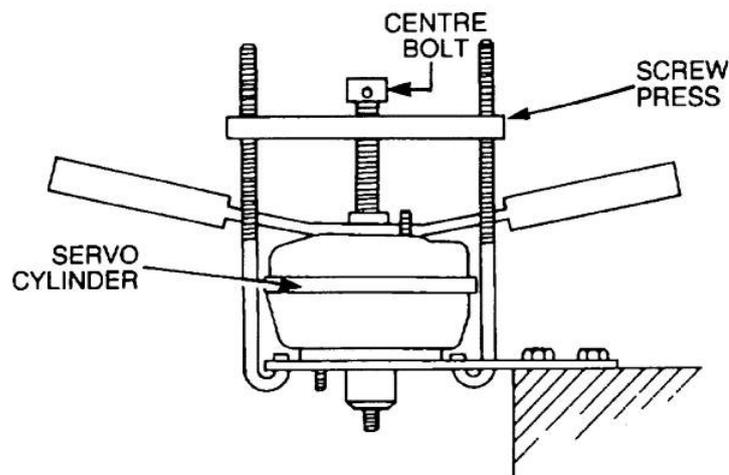

Figure 285 Disassembly of the Servo Vacuum Chamber
- b.** Match mark the front and rear covers (items 8 and 25) to ensure correct orientation on reassembly.
- c.** Remove the vacuum check valve (item 5) and grommet (item 7) from the front cover. Discard both components.
- d.** Remove the nut (item 23) and clevis (item 22) from the input rod and plunger (item 24). Discard the nut.
- e.** Remove the dust cover (item 18) and the felt air filter (item 19) from the input rod. Remove the protector (item 20) and the foam air filter (item 21). Discard all components.
- f.** Remove the front seal (item 2), the support plate (item 3) and the front push rod (item 6) with the retainer (item 4). Discard the seat and the retainer.
- g.** Place the vacuum chamber in a screw press or equivalent (Figure 285), with the rear cover studs in the holes in the base of the tool. Place the bar wrench and adapter over the studs in the front cover. Align the tool clamp with the base and attach the hook bolts to the base.